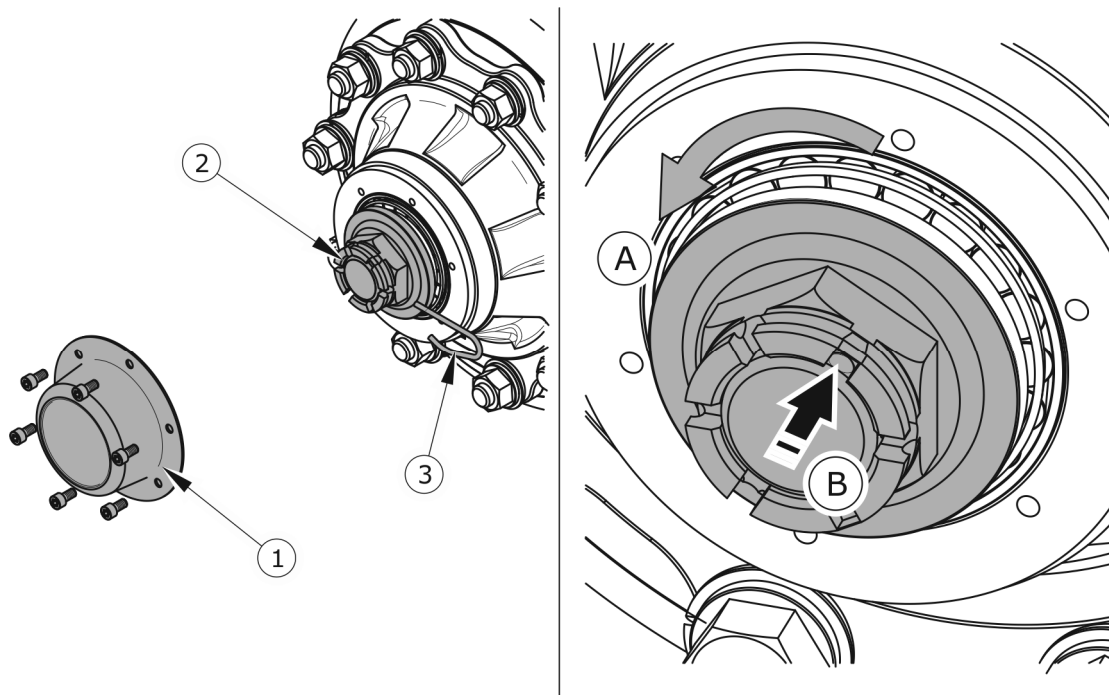

FIGURE 5.2 Drive axle bearing slack adjustment
(1) hub cover, (2) crown nut, (3) pin
- ➔ Disassemble the hub cover (1) – Figure 5.2.
- ➔ Remove the pin (3) securing the crown nut (2).